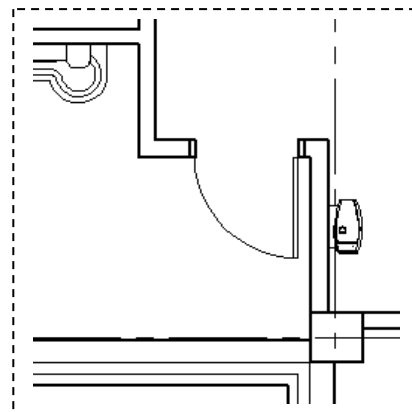

Figure 3-1.11 Drinking fountain centered on wall
18. Add a **drinking fountain** just to the east of the Men's toilet room, and centered on the wall, as shown in Figure 3-1.11.